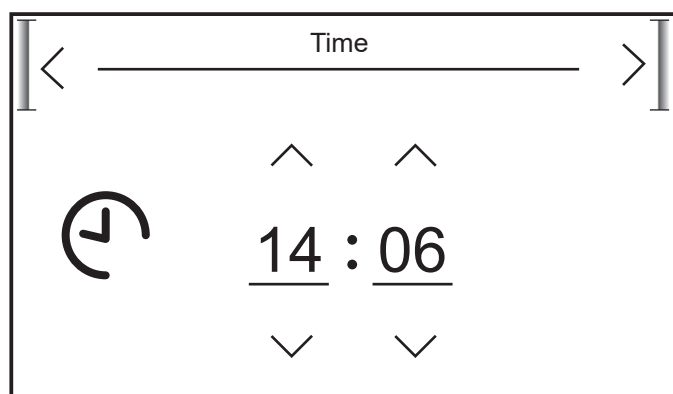

Figure 6-3: Setting time
4. Set the time. Tap the ^ & v to amend the time & confirm with >. Refer to Figure 6-3.